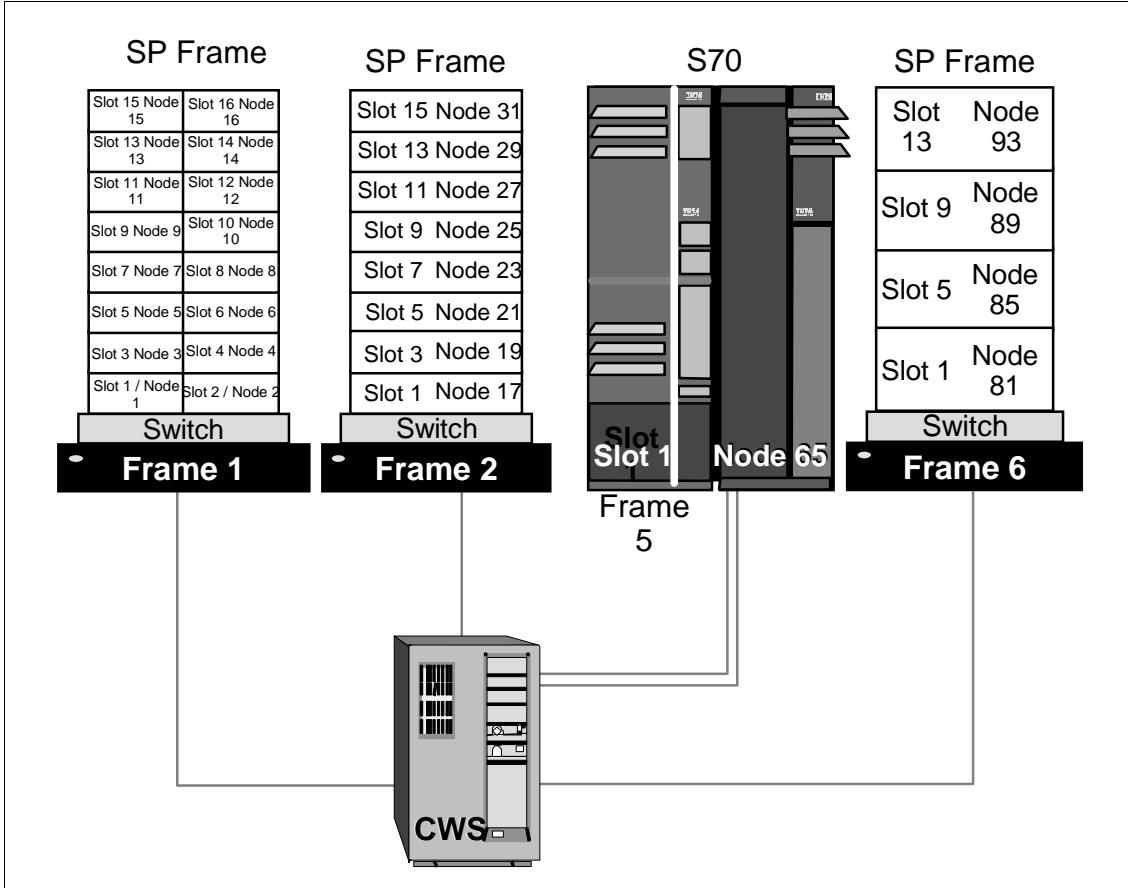

Figure 76. Node Numbering
- Each SP-attached server installed in the SP system subtracts one node from the total node count allowed in the system. However, as the server has frame-like features, it reserves sixteen node numbers that are used in determining the node number of nodes placed after the attached server. The algorithm for calculating the node_number is demonstrated in Figure 76; for further information on the frame numbering issue, refer to Figure 92 on page 166: